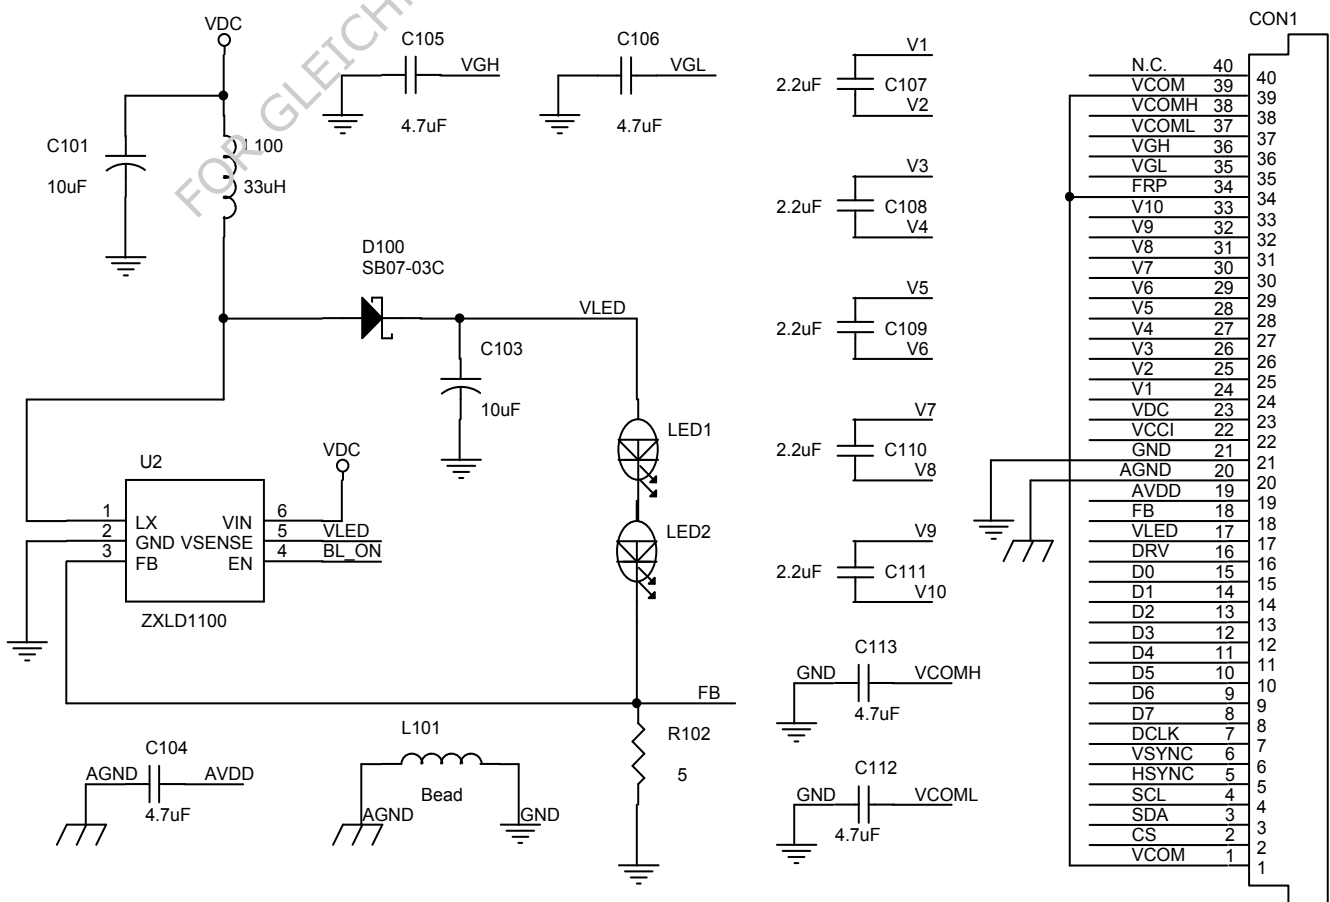

Fig.13 External LED driver Circuit
See Fig. 13 for the application circuit.
According to Fig. 13, the LED driver(ZXLD1100) and R102(5 ohm) with 0.1V feedback (FB) can provide a constant 20mA current for LED backlight unit. To control the back light on/off timing, user should create a control signal BL_ON (please refer to the ZXLD1100 date sheet). The LCD driver output DRV signal can also be used to drive BL_ON, in the condition of fine tune the R102 value to get the desired LED current value.
After V_{DC}/V_{CCI} power on reset, VSYNC/HSYNC/DCLK/DATA can be input, and serial control interface is also operational. The LCD driver is in default standby mode after V_{DC}/V_{CCI} power-on, and setting register #5 bit #0 to high (STB=1) to disable the standby mode is required for normal operation. When the standby mode is disabled, a build-in power on sequence is started. The driver IC analog power AVDD is turned on first, and then the LCD positive and negative power supplies VGH/VGL are pumped, and followed by the LED power VLED. So user need to control the BL_ON signal (see Fig.13) to be provided at this time. Please refer to Fig.14 for the detail timing of power on/off sequence.